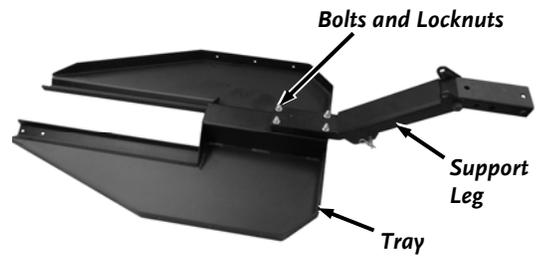

Figure 8
2. Install the Tow Bar to the end Tray with four Bolts and Lock Washers (from product package) using two 9/16" Wrenches (**Figure 8**).